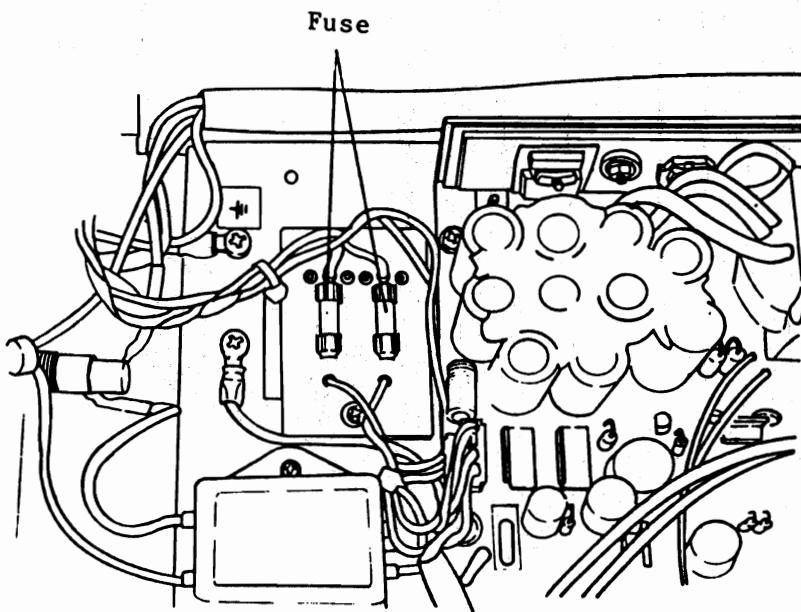

Fig. 5.2.10 (For 120,230,240V)
- ③ Replace two 5A fuses as in Fig. 5.2.10.